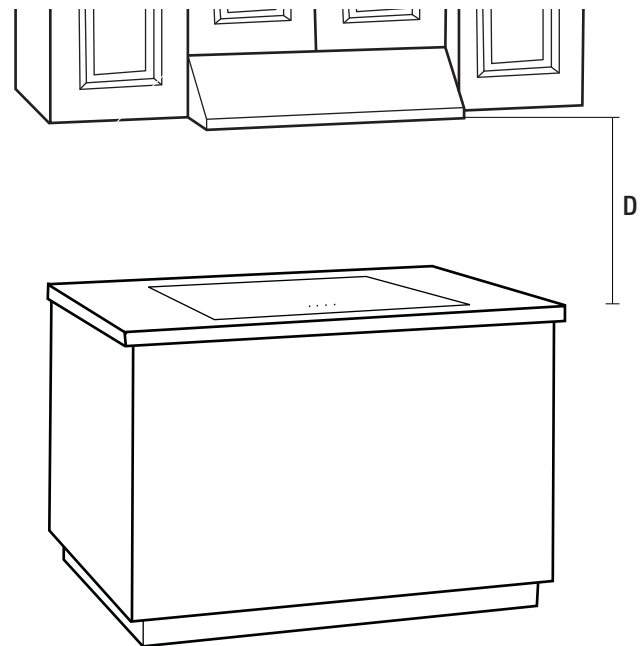

Fig. 1
4. If you choose to hang the range hood as below (Fig. 1) distance (D) from the cooktop surface, use extra caution as the surface of range hood may be extremely hot to the touch.
For QR001, QR003, QR006, QR009 & QR014, (D in Fig. 1) is 458 mm - 710 mm (18 in. - 28 in.). For QR019, (D in Fig. 1) is 432 mm - 813 mm (17 in. - 32 in.).